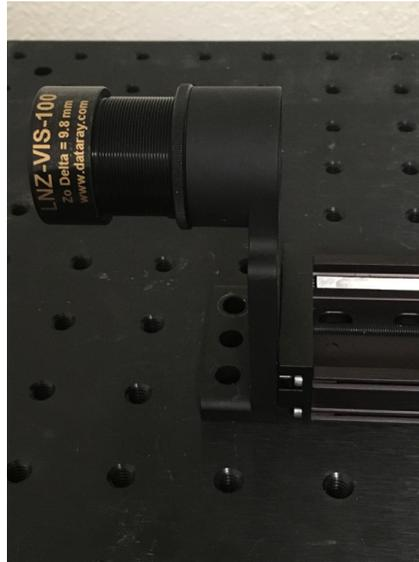

Figure 9.7: The **LNZ** lens assembly attaches to the lens mount bracket. The properly chosen lens will create a beam waist within the range of the M2DU stage.
6. Add the **LNZ** lens assembly as shown in Fig. 9.7.